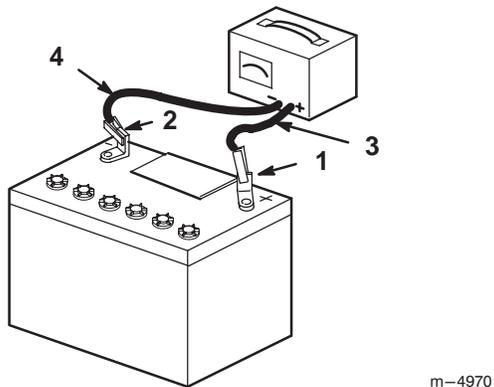

Figure 41
4. When the battery is fully charged, unplug the charger from the electrical outlet, then disconnect the charger leads from the battery posts (Fig. 41).